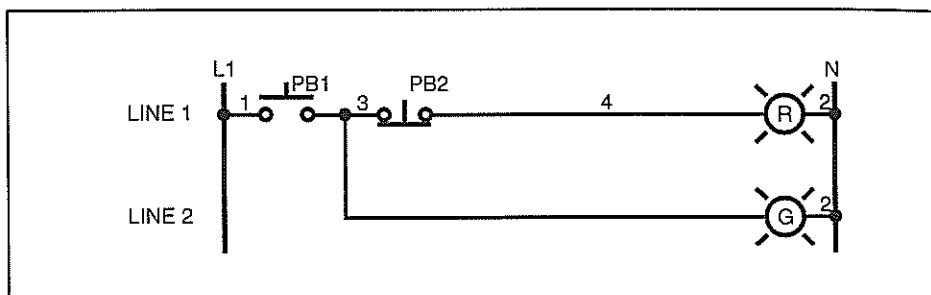

Figure 28. Second Ladder Diagram for Skill 4
- 6. Perform the following substeps to determine the operation of a circuit using the ladder diagram in figure 28.